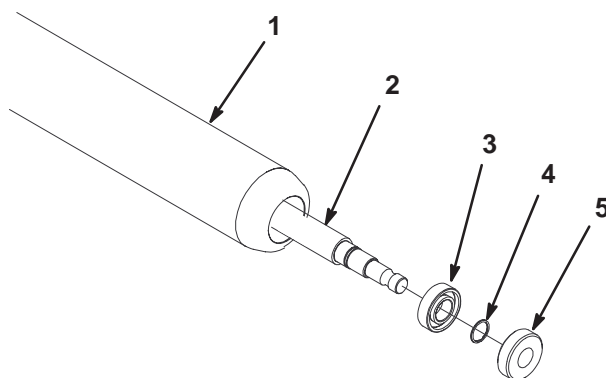

Figure 3
1. Remove retaining ring (Fig. 3). Repeat on other end.